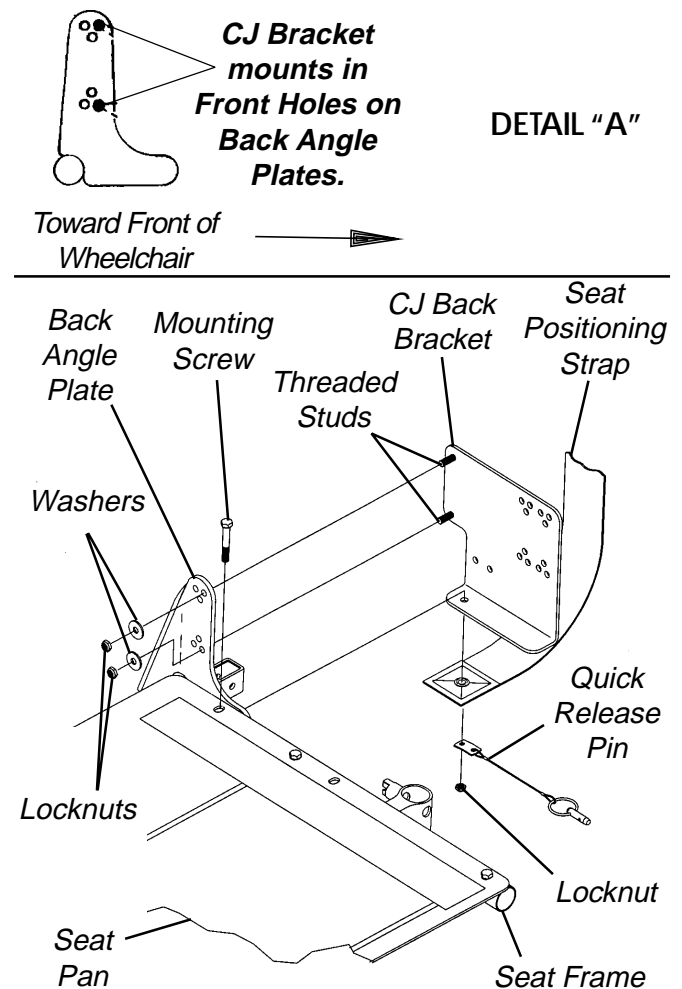

FIGURE 1 - REMOVING/INSTALLING CJ BACK BRACKETS
REMOVING/INSTALLING CJ BACK BRACKETS (FIGURE 1)
2. Install the threaded studs of the CJ back bracket through the back angle plates as shown in FIGURE 1.